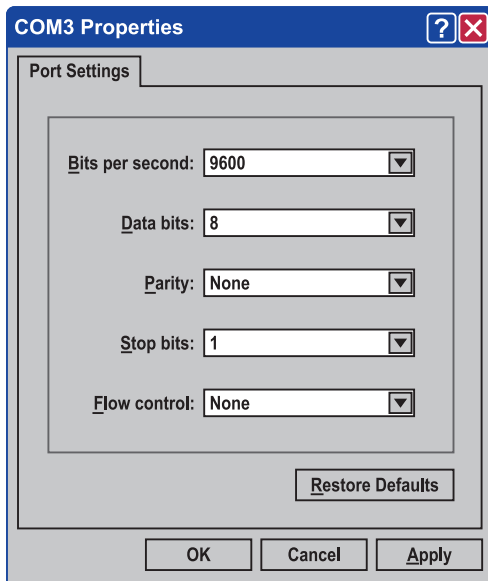

Figure A-2. COM3 properties tab.
- Click the "Settings" button to open the COM3 Properties menu. Change your parameters to 9600 bits per second, 8 data bits, no parity, 1 stop bit, and no flow control, as pictured in Figure A-2.